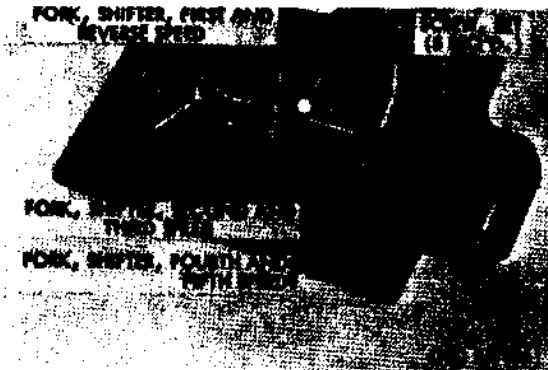
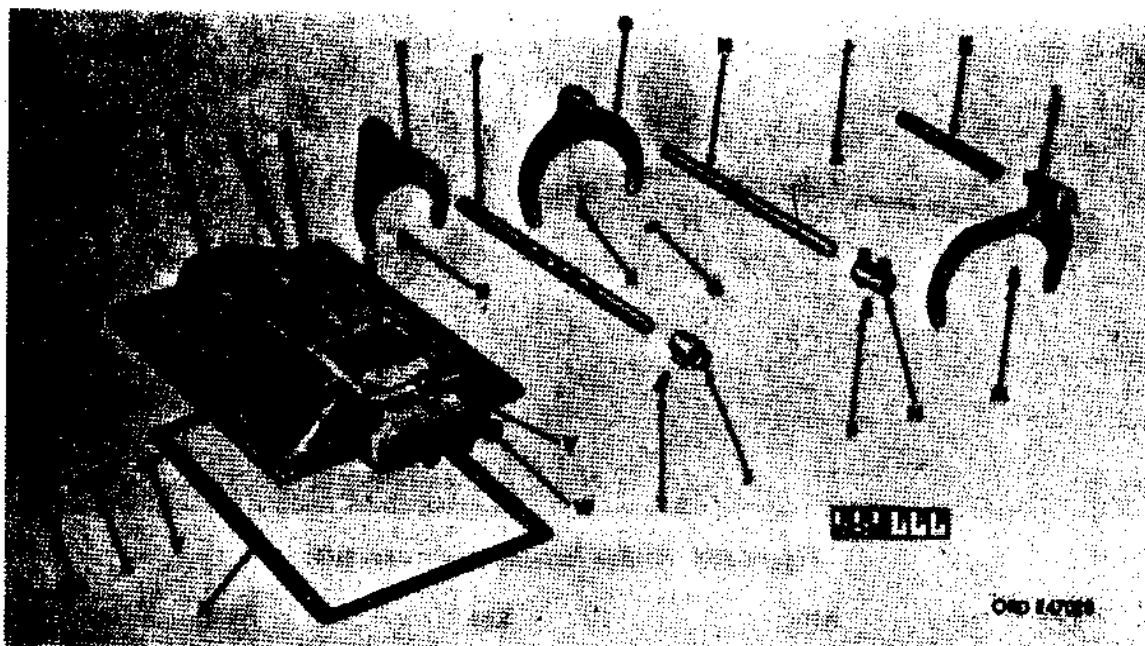

Figure 270. Disassembling shifter forks and shafts
Figure 272. Shifter housing assembly - exploded view
- (b) Cut locking wires and remove five setscrews (fig. 270).
- (a) Place shifter housing (B) upside down on bench, with front end of cover to the right. Install first and reverse speed shifter shaft (F) in shifter housing (B), through the upper front shifter shaft hole. Slide shifter shaft through first and reverse speed shifter shaft bracket (S), and on through the shifter housing and add first and reverse speed shifter fork (E). Install shifter fork setscrews (T and U, fig. 269 and fig. 270) and secure with locking wires.
- (b) Install shifter shaft interlock (Q) in shifter housing (B).
- (c) Start second and third speed shifter shaft (H) in center hole in front of shifter housing (B). Add second and third speed shifter shaft bracket (N) and second and third speed shifter fork (G). Install setscrews (P and R, fig. 272) and lock with locking wire.
- (d) Install shifter shaft interlock (J) in shifter housing (B).
- (e) Start fourth and fifth speed shifter shaft (K) in front of shifter housing (B) and slide shaft through fourth and fifth speed shifter fork (L). Install setscrew (M, fig. 272) and secure in place with locking wire.
- (f) Install expansion plugs (W) into openings at front end of shifter housing (B). Tap plugs with a ball peen hammer to lock into place.